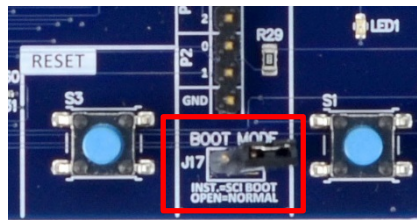

Figure 2. Boot mode configuration
2. Verify that J17 (BOOT MODE) is not installed across the pins (Figure 2).